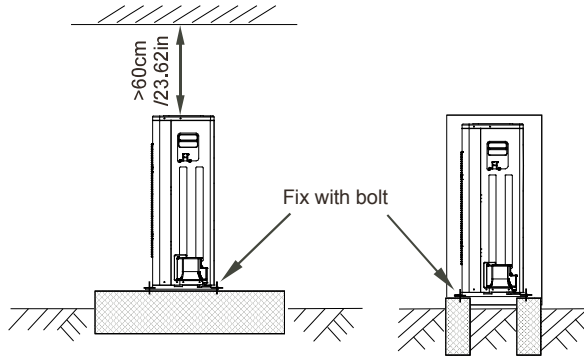

Fig 4.5
- Make concrete foundation according to the specifications of the outdoor units. (Refer to Fig.4.5)